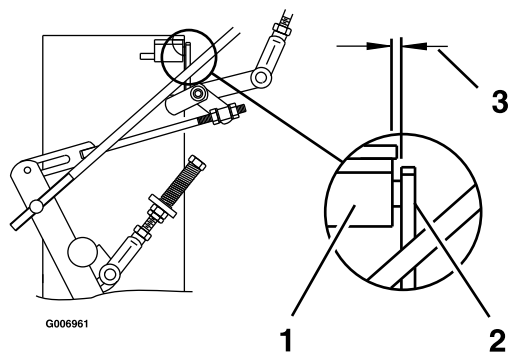

Figure 17
2. Move the speed control lever (located on the console) to the full forward position and check the orientation of the tabs on the ends of the speed control crank (see Figure 17). These tabs should be pointing straight down at the 6 o'clock position or slightly forward. Adjust the threaded yoke at the bottom of the
speed control linkage (see Figure 17) until the tabs are positioned correctly.
- Pull the speed control lever back to neutral. Check that the neutral safety switch actuating tab has depressed the plunger of the switch so that there is about 5/16 inch (7.9 cm) between the tab and the switch (see Figure 17). If necessary, move the switch fore and aft.